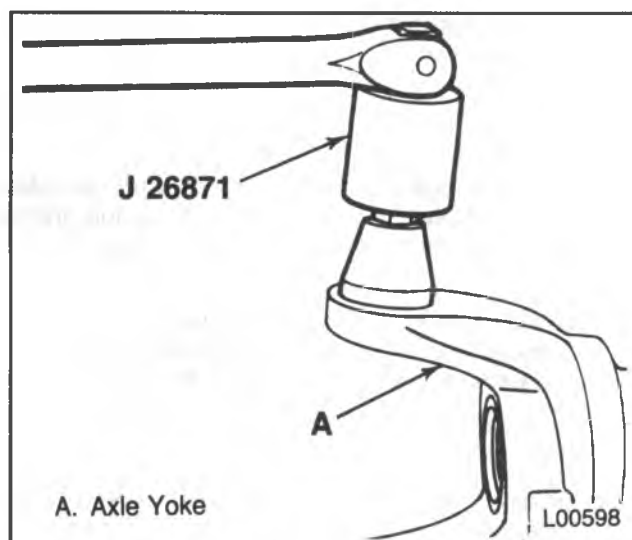
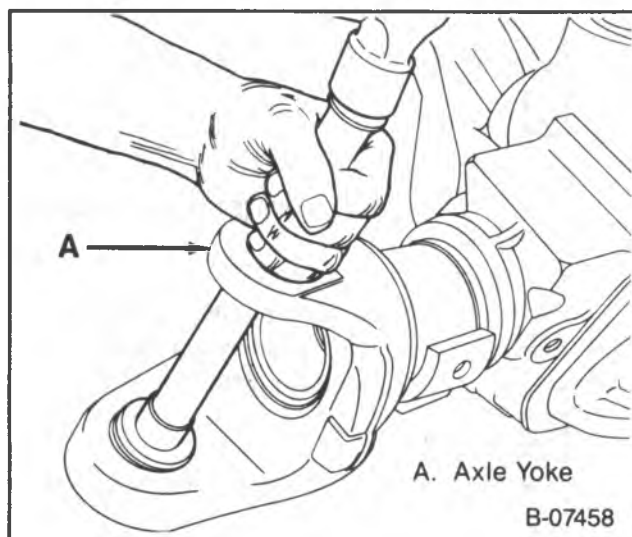

Figure 63 — Removing the Upper King Pin
Figure 64 — Removing the Retainer, Race, Bearing and Seal
9. Upper king pin bushing (287).
- Pull it out through the steering knuckle (274).
10. Steering knuckle (274) from the axle yoke.
11. Retainer (301).
12. Upper king pin (279) from the axle yoke.
- Use a large breaker bar and J 26871 (figure 63).
13. Retainer (281), race (282), bearing (283) and the seal (284) from the axle yoke.
- Punch all the components out at once (figure 64).